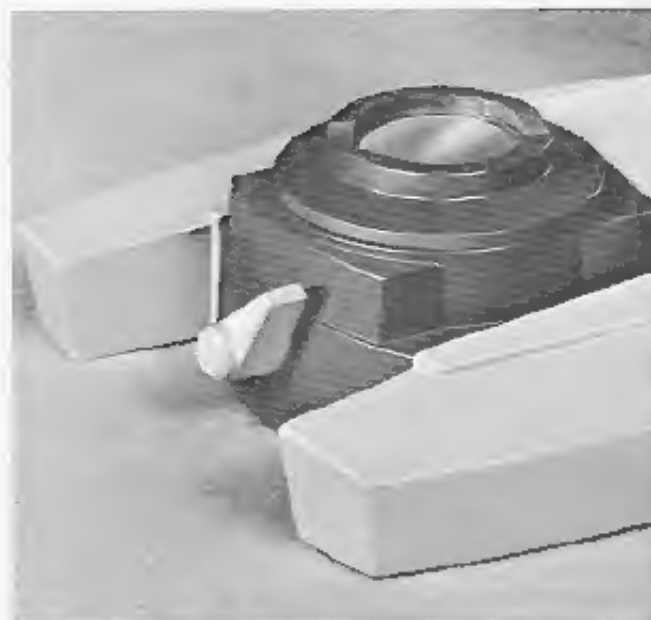

Figure 25. Cat. No. 1036 Illuminator
- (2) Neutral Density Filter. A integral neutral density filter is incorporated as standard equipment in the Cat. No. 1036 illuminator (figure 25). It has a transmission of approximately 10% and is controlled by a lever in the front of the illuminator. Because of the high intensity provided with this illuminator, for ordinary bright field work it will probably be more comfortable to use the neutral density filter.